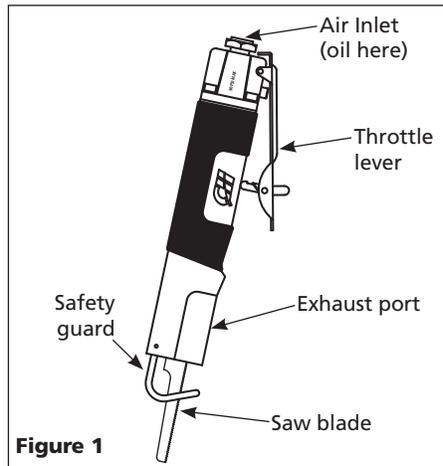

Figure 1
- 2. Turn the air reciprocating saw so that the air inlet is facing up (refer to Figure 1).